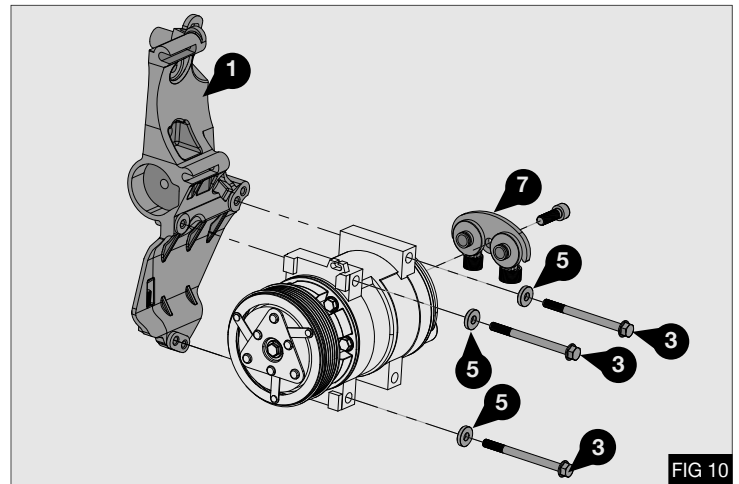

FIG 10
1. Install the supplied compressor manifold (7) in the orientation shown opposite. Torque the securing bolt of the manifold (7) to 34 Nm / 25 lb ft - Fig 10
2. Install the compressor to the mount bracket (1) using the 3x M8x100 bolts (3) fitted with washers (5). Torque bolts (3) to 20 Nm / 15 lb ft using a calibrated torque wrench - Fig 10
3. Re-fit the alternator (G) and secure using the original fasteners. Torque the alternator fixing bolts to 25 Nm / 18.4 lb ft. Re-fit the wiring to the alternator.